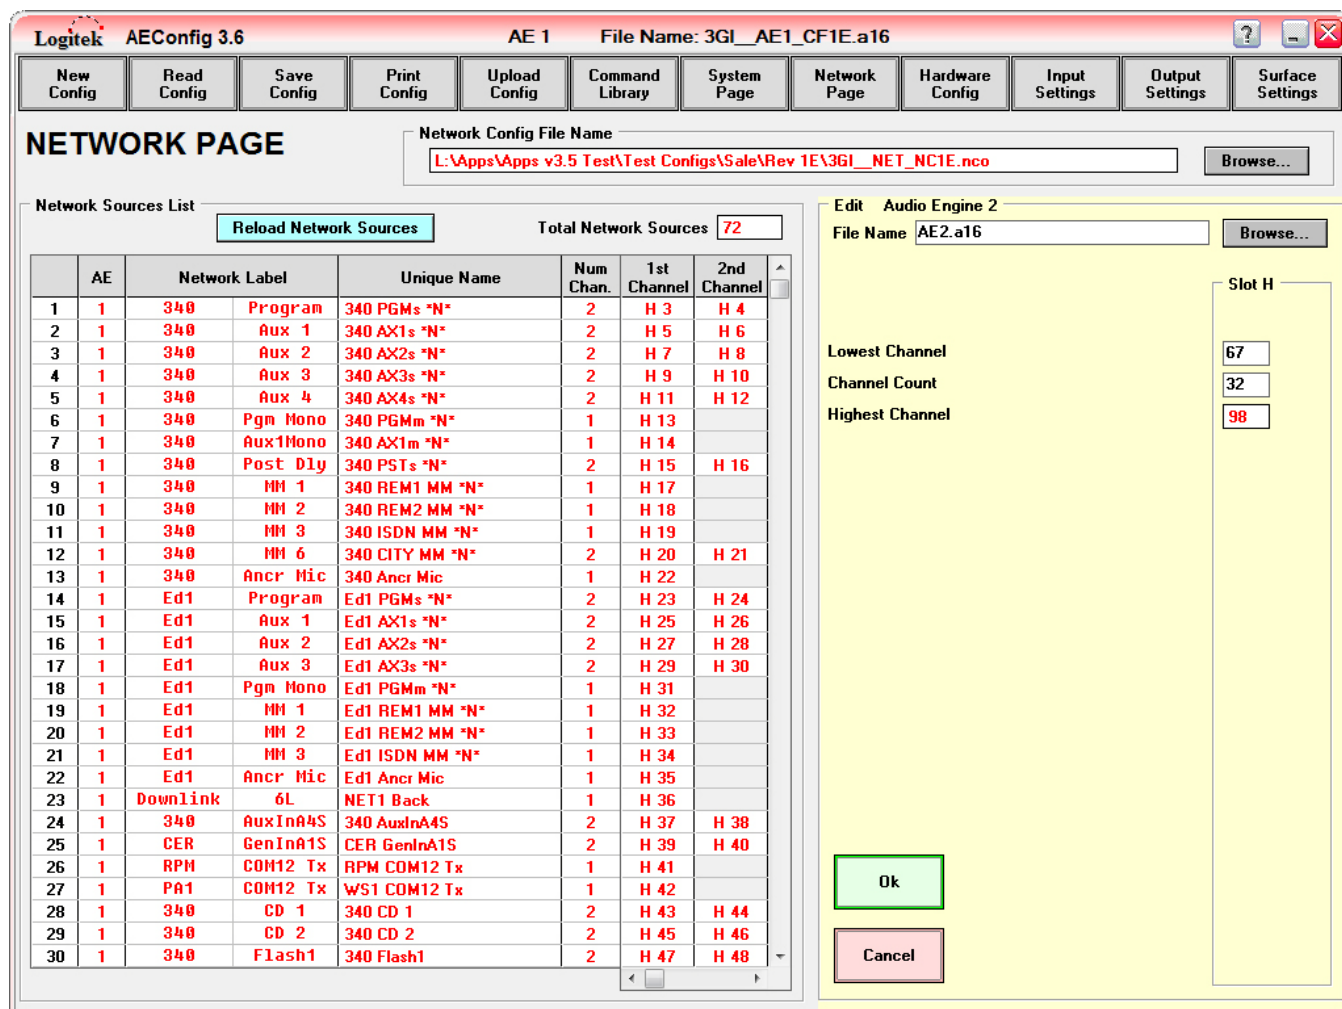

Figure 14 - Edit Audio Engine
2. The **Edit Audio Engine** box is displayed over the **Network AE List**, as in Figure 14 below.